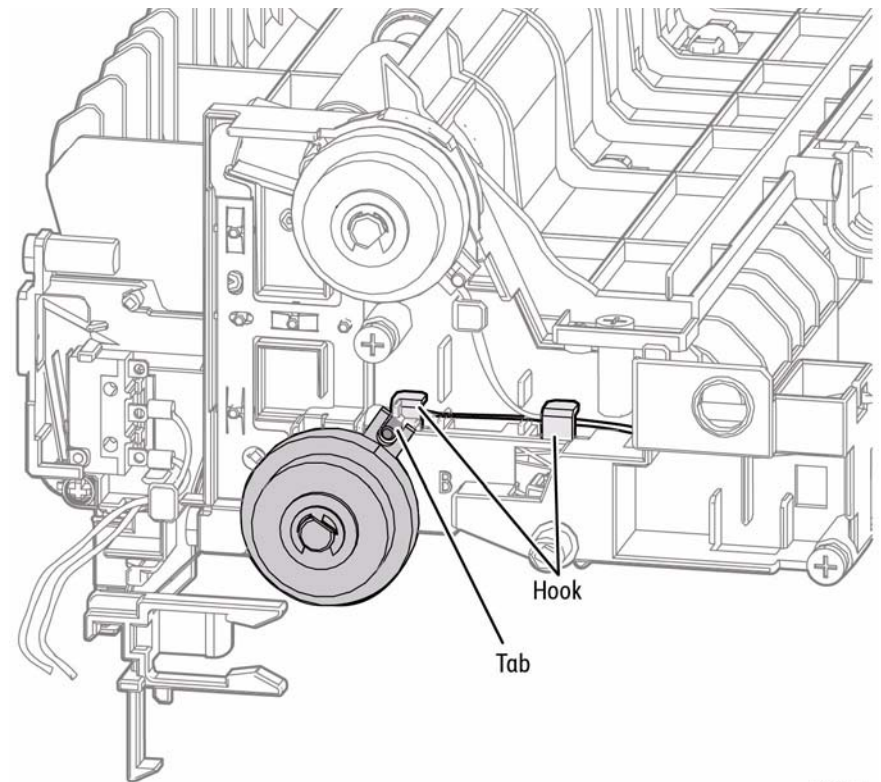

Figure 1 Remove the Feed Clutch
2. Refer to Figure 1 to locate and remove the E-ring that secures the Feed Clutch to the Transport Assembly.